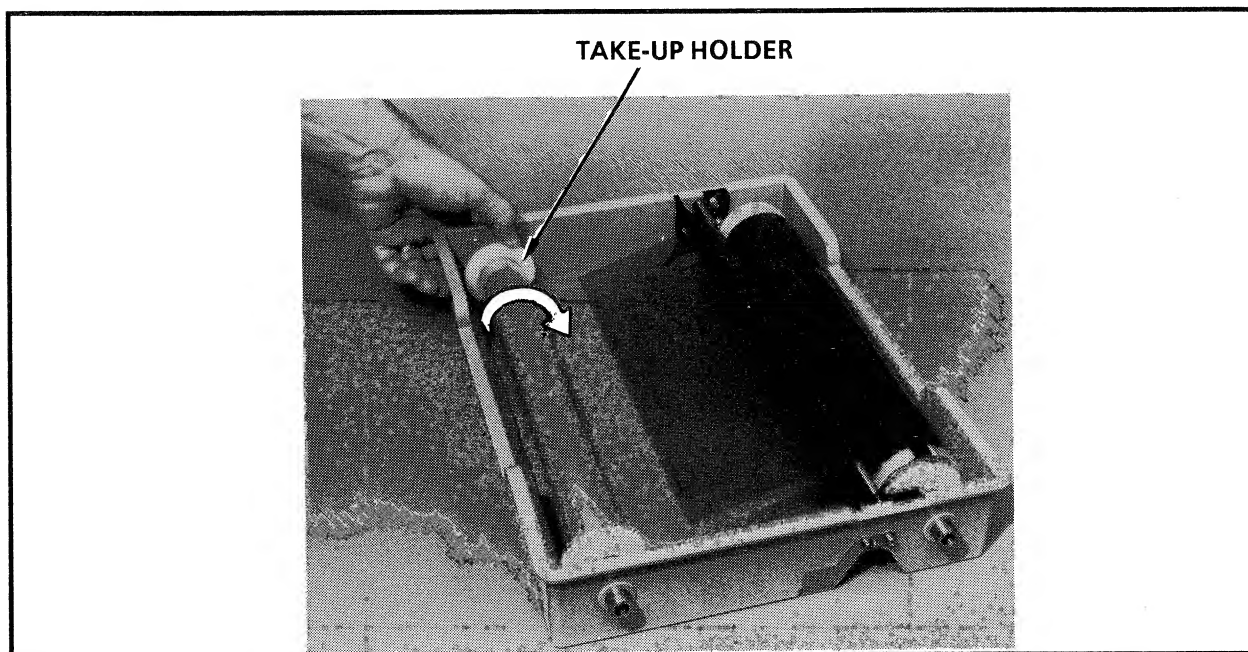

Figure 3-6. Tightening the Donor Roll (Take-up Side)
7. Pull the take-up roll across the tray to the side labeled FRONT SIDE OF PRINTER and mount the take-up roll on the hub and roll holder as in step 6 above. Standing at the front of the tray, roll the top of the take-up roll *away* from you (clockwise as viewed from the right) to eliminate any slack in the sheet. See Figure 3-6.